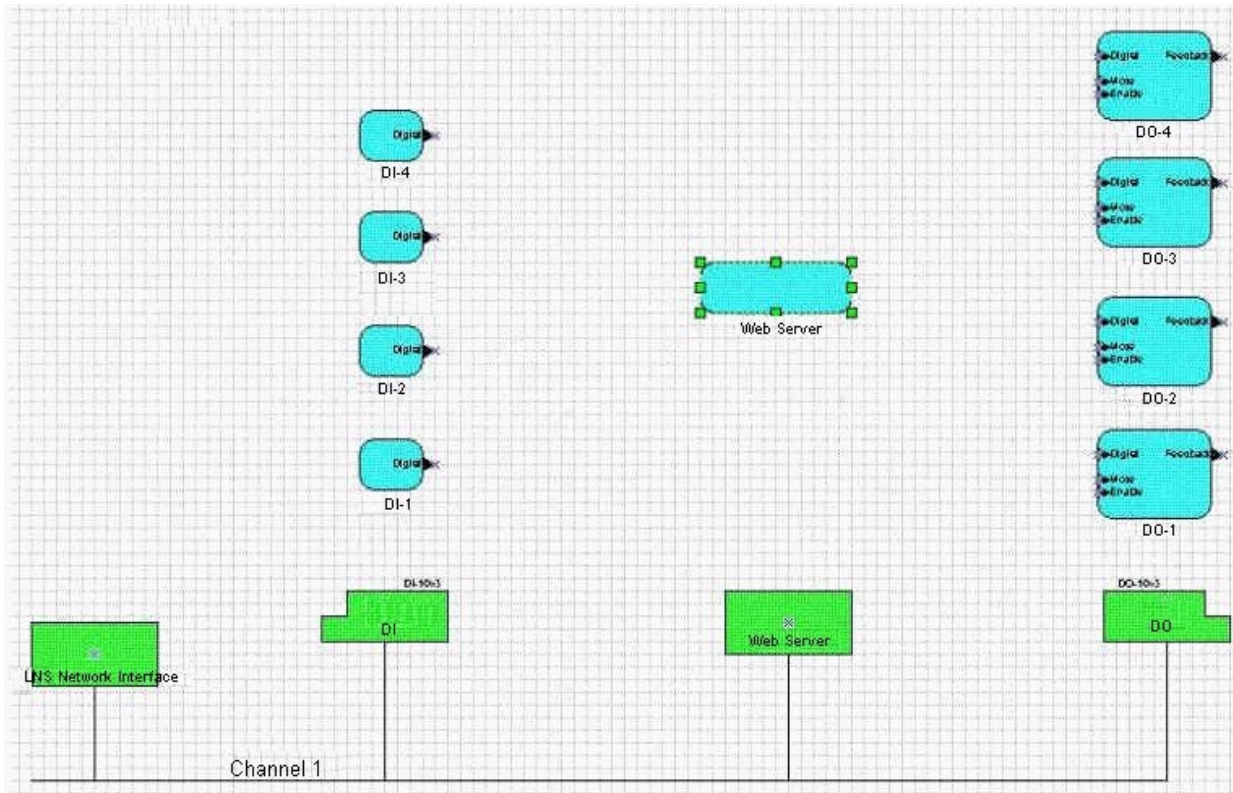

Figure 9-5 LonMaker Drawing Defining the *i.LON 1000* Web Server
11. Drop a Functional Block shape from the LonMaker Basic Shapes stencil. Associate the functional block with the Web Server device's Virtual Functional Block. The drawing should look similar to Figure 9-5.